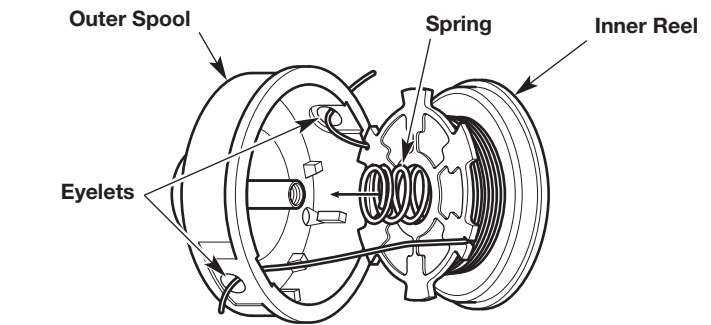

Fig. 21
1. Pass the two line ends through the eyelets in the outer spool (Fig. 21).
2. Place the spring inside the inner reel (Fig. 21).
3. Insert the inner reel into the outer spool (Fig. 21). Push the inner reel and outer spool together.